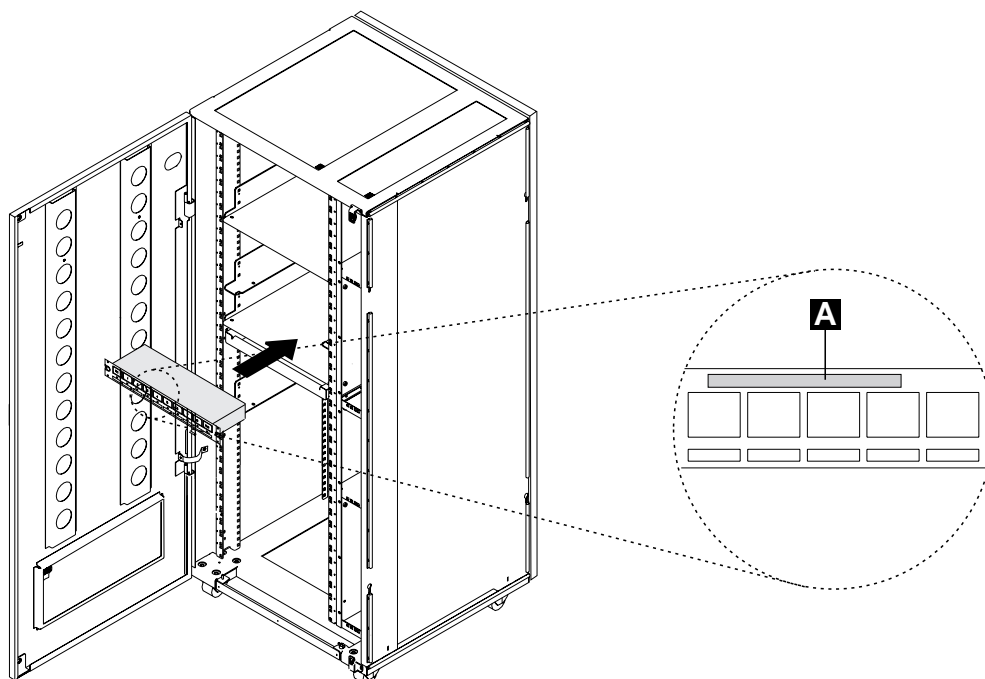

Figure 1-45. Installing the 8228 (Controller Expansion Rear side)
6. ____ Install the 8228 in a safe place near the service processor. If you received a controller expansion, the 8228 is installed on the rear side of the controller expansion using two screws (PN 1621232) and two captive nuts (PN 58G5766) see Figure 1-45. Using label **A** (PN 80G0680), identify the 8228 as Service Processor Access Unit.